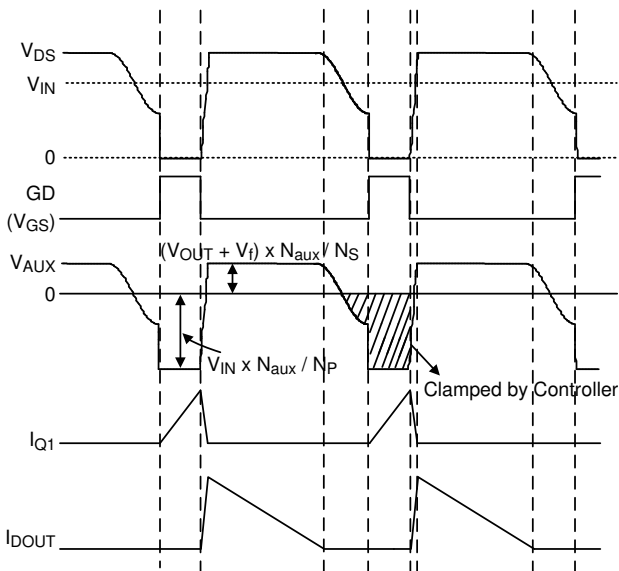

Figure 3. Key Waveforms of a Flyback Converter
The RT7306 needs no shunt regulator and opto-coupler at the secondary side to achieve the output current regulation. Figure 3 shows several key waveforms of a conventional flyback converter in Quasi-Resonant (QR) mode, in which V_{AUX} is the voltage on the auxiliary winding of the transformer.